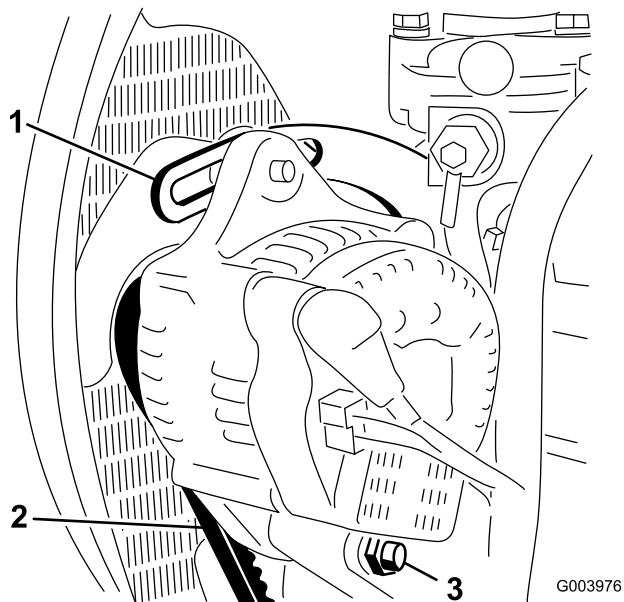

Figure 62
2. Check the tension of the alternator belt by pressing on it, with moderate thumb pressure, midway between the alternator and the engine pulley (Figure 62).
3. Loosen the bolt securing the brace to the engine (Figure 62), the bolt securing the alternator to the brace and the pivot bolt.